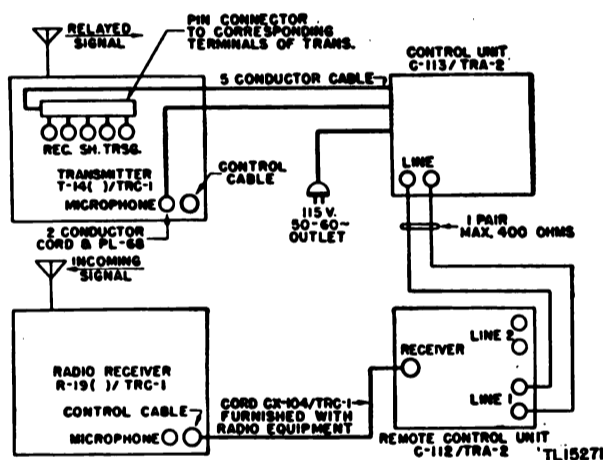
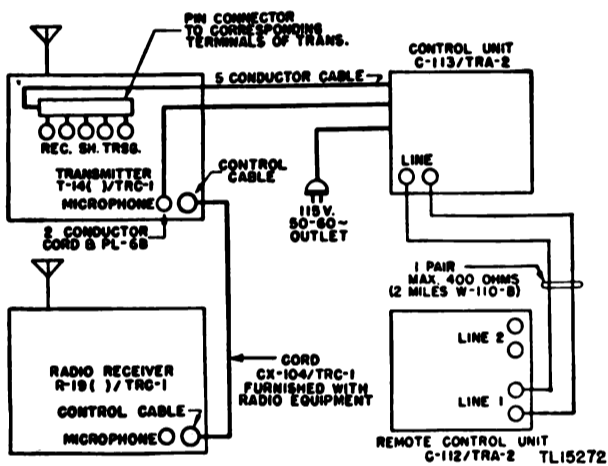
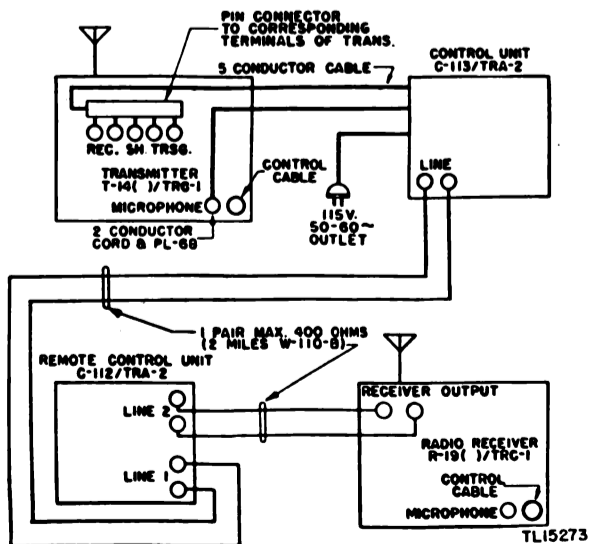

Figure 4. Automatic relay operation, cording diagram.
Figure 5. Radio remote control, 2-wire, cording diagram.
Figure 6. Radio remote control, 4-wire, cording diagram.
a. **AUTOMATIC RELAY OPERATION.** (1) Connect the equipment as shown in figure 4. Separate the transmitting and receiving antennas by a distance sufficient
(3) Set Radio Transmitter T-14()/TRC-1 controls as follows:
(4) Set Radio Receiver R-19()/TRC-1 controls as follows:
b. **RADIO REMOTE CONTROL, 2-WIRE** (1) Connect as shown in figure 5.
- c. RADIO REMOTE CONTROL, 4-WIRE. (1) Connect as shown in figure 6.
phone T-45, or both may be used. Normally Loudspeaker LS-11 is plugged into the loudspeaker jack. Headsets may be used for radio remote control, 2-wire (fig. 5) and radio remote control, 4-wire (fig. 6). The loudspeaker is not generally used for automatic relay operation (fig. 4). Plugging in a headset automatically disconnects the loudspeaker. Check position of LINE SWITCH for proper position to correspond to the particular method of operation. Rotate counterclockwise for installations corresponding to figures 4 and 5 (2-wire service) and clockwise for installations corresponding to figure 6 (4-wire service).
b. OPERATING INSTRUCTIONS FOR CONTROL UNIT C-113/TRA-2. (1) *Radio transmission.* Operate switch on Handset TS-15() or H-23()/U and hold while talking. The voice will modulate Radio Transmitter T-14()/TRC-1 and will also be transmitted by field wire to Remote Control Unit C-112/TRA-2.
(2) *Intercommunication* (figs. 4 and 5). Operate INTERCOM. switch in the direction of the arrow on the panel and hold to prevent modulation of the transmitter. Operate thumb switch on handset and hold only while talking. *Release thumb switch when listening.*
Note. Intercommunication feature is not provided for installations corresponding to figure 6 (4-wire service). In an
(2) *Intercommunication* (fig. 4). Operate INTERCOM. switch in the direction of the arrow on the panel and hold when necessary to increase listening level, but only if it does *not* interfere with operation of radio. This switch need not be used on installations corresponding to figure 5.
(1) C101 is an 8-mf capacitor used in series with one winding of control relay to block direct current from that winding.
(2) C102 is a 2-mf, line coupling capacitor.
(3) J101 is a jack for plug-in of loudspeaker.
(4) J102-1, J102-2, and J102-3 are jacks for plug-in of headsets.
(5) J103-1, J103-2, and J103-3 are jacks for plug-in of microphones.
(6) P101 and P102 are line terminals for termination of line 1.
(7) P103 is a 7-pin, female control cable receptacle for connecting Cord CX 104/TRC-1 to Radio Receiver R-19()/TRC-1.
(8) P104 and P105 are line terminals for termination of line 2.
(9) R101, a 4,000-ohm resistor, R102, a 10,000-ohm resistor, and S101 make up a 3-position volume control to control volume of headsets.
(10) R103-1 and R103-2, 100-ohm resistors, are for relay control, and are used only on automatic relay operation (fig. 4).
(11) R104-1, R104-2, and R104-3, 250-ohm resistors, compensate for insertion of one to three headsets.
(12) S102 is the line switch which separates line 1 from line 2 on remote control, 4-wire operation.
(13) S103 is the intercommunication switch which increases INTERCOM. listening level on automatic relay operation.
(14) RL101 is a combination relay and autotransformer, microphone-to-line, and matches the input impedance of Control Unit C-113/TRA-2. The contacts control the sidetone reduction circuit, and disconnect the loudspeaker circuit.
(15) V101 is a varistor which absorbs clicks in the headset circuit.